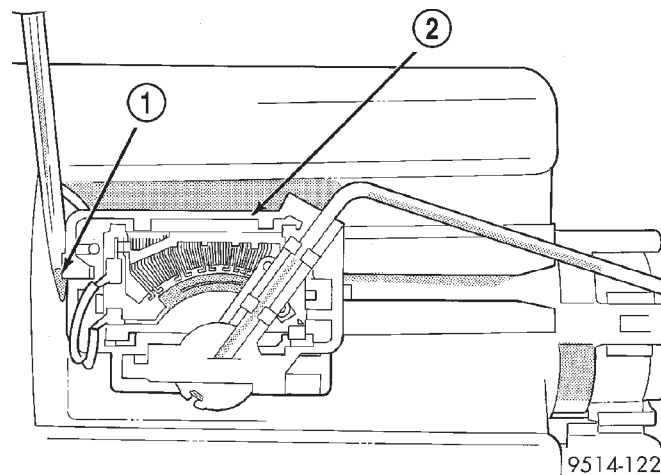

Fig. 20 Loosening Level Sensor
(3) Insert a screwdriver between the fuel pump module and the top of the level sensor housing (Fig. 20). Push level sensor down slightly.